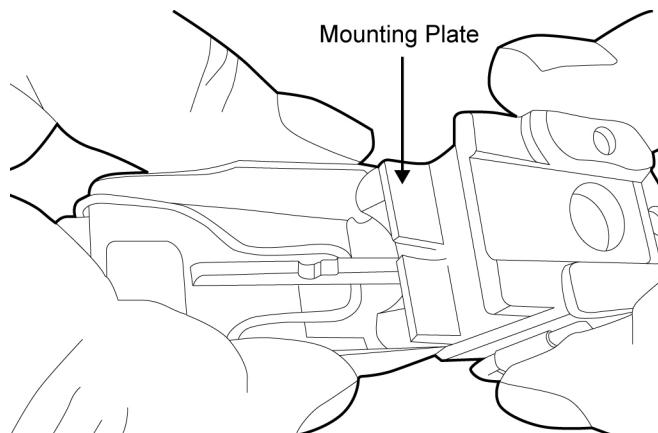

Figure 53. Installing the Mounting Plate.
c. Install the mounting plate onto the side folding buttstock. This will place the mounting plate and release lever under spring tension. Refer to Figure 53.